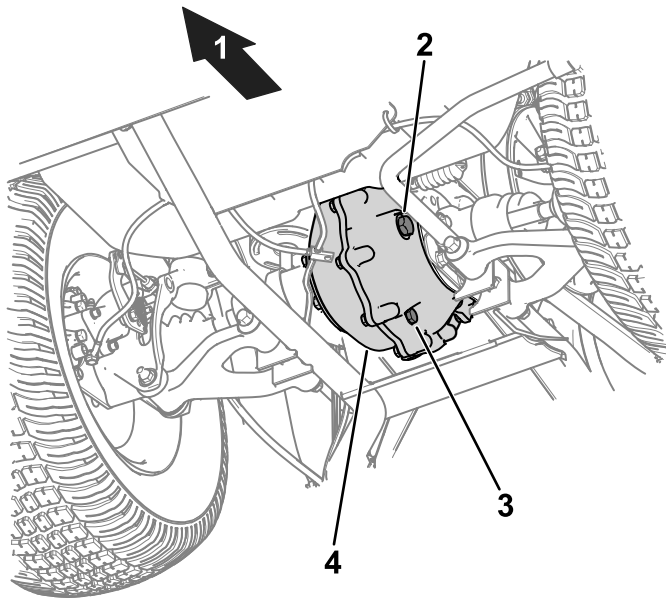

Figure 48
- Remove the fill plug on the transaxle (Figure 48).
- If the fluid level is low, remove the fill plug and add the specified fluid until it runs out of the hole (Figure 48).
- Align a drain pan under the drain plug (Figure 48).
- Remove the fill plug (Figure 48).
- Remove the drain plug, and allow the fluid to drain completely (Figure 48).